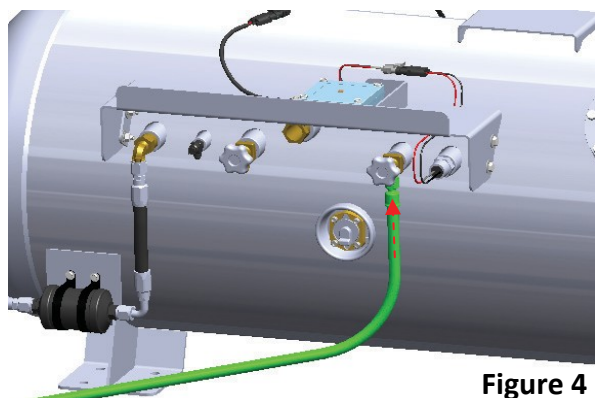

Figure 4
- 4) Connect service evacuation hose to the liquid service valve on the evacuation tank. **Torque: Fully Seated Not Stripped, Not Leaking. Figure 4**